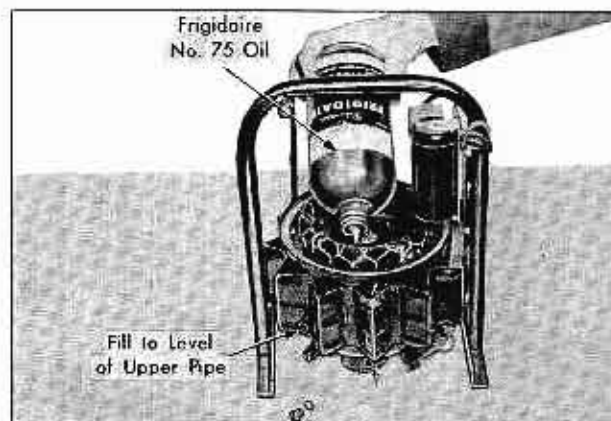

Fig. 16A-8 Adding Oil to Vacuum Pump
**NOTE:** Make sure dust cap on discharge side of vacuum pump has been removed. Check fluid level. This should be between the high and low screws in the side of the pump, Fig. 16A-8. Add Frigidaire 75 viscosity oil to bring to proper level. Change oil in pump every 250 hours of operation by removing top and laying pump on its side with discharge oil trap up. Hold rotor firmly in position to prevent its coming out while draining oil. Do not use the vacuum pump as an air compressor as it will not receive proper lubrication under such usage. Keep suction and discharge fittings capped when not in use. A small amount of 75 viscosity oil may be drawn into the pump occasionally to insure protection of internal parts during periods of disuse. If the pump should fail to start; check capacitor, relay, or remove the top and turn the rotor by hand to relieve a temporary stuck condition.